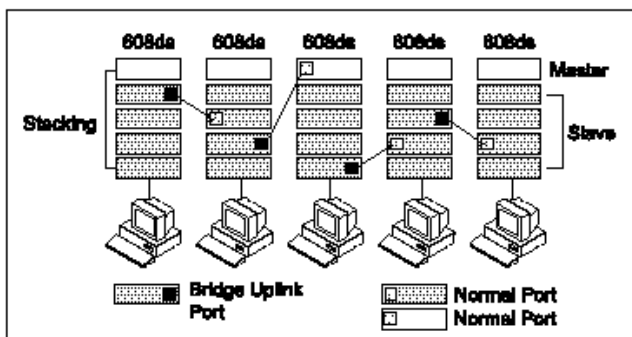

Figure 3-4 Unlimited cascading of ALH-608ds.
- By way of an uplink port with a Bridge function, the limitations on 100Mbps hub count(maximum 2) can be eliminated. The hub count is unlimited and cable length between hubs can reach 100meters, as shown in *Figure 3-4*.